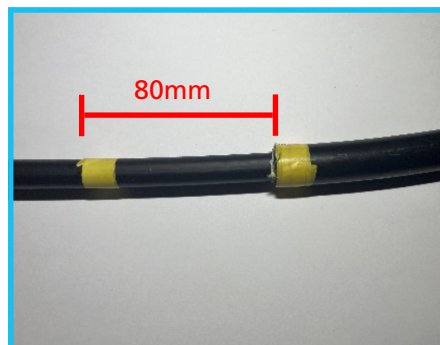

Figure 4.2
2. Remove the water blocking tape and mark the inner sheath at 80mm from the ring cut [figure 4.2].